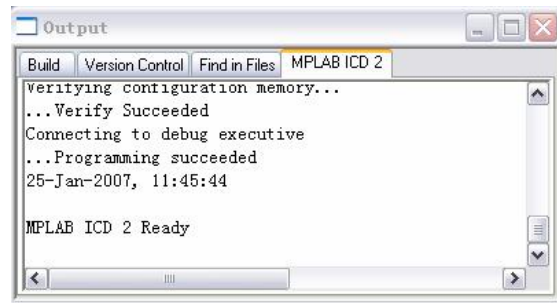

Figure 6-5 Programming Information
6) Implement menu command Debugger→Program or the icon in the tool bar to program/burn the objective codes to the target MCU chip (Note: now the MCU cannot run in offline mode but has to be run under debugging mode), after programming it will show a message as in Figure 6-5.